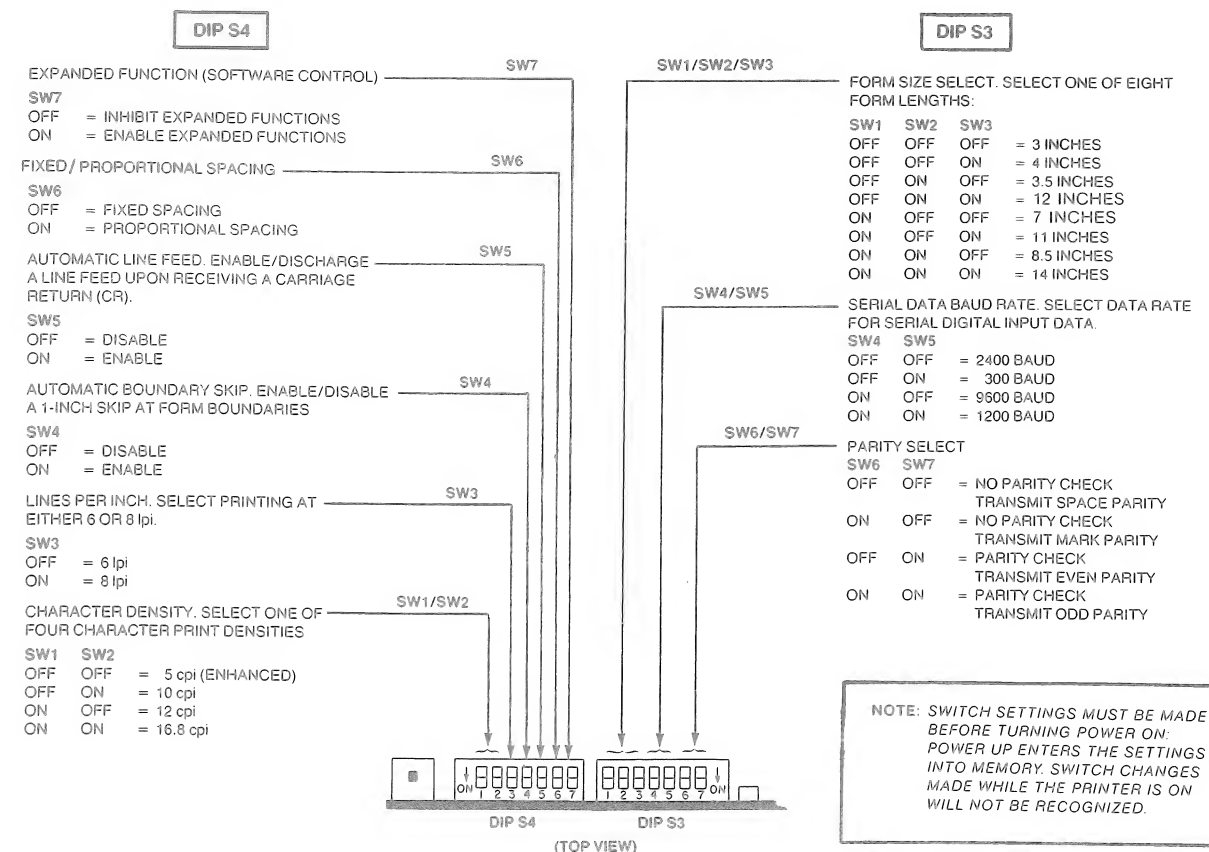

Figure 3-2
- Set the two 7-position DIP switches (S3 and S4) per Table 3-2 and Figure 3-2; use a narrow, blunt object (such as a ball point pen) to set switches.
**3.3.2.2 Printer Control Functions.** The ASCII control codes to which the IDS-460 Printer can respond are divided into two subsets, as listed in Tables 3-3 and 3-4. Printer response to either subset is determined by the position of the Expanded Function DIP Switch (DIP S4, SW7 as shown in Figure 3-2).